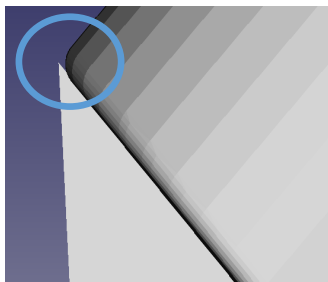

Figure 8. Illustration of Cutting Groove
4. Use a sharp knife and cut off the excess of the Aluminum foil just above the cone – there should be a small cutting groove to assist a straight cut (see Figure 8 image on top left).